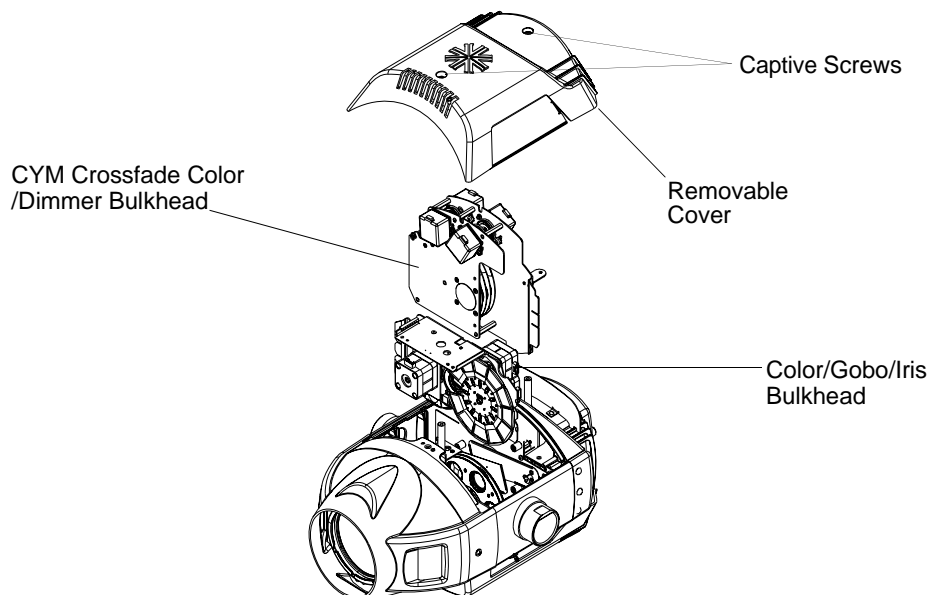

Figure 2-3: Color/Gobo/Iris Bulkhead Replacement
- Step 2. At top head cover, gradually loosen two 8-32x1/2" captive screws and remove cover. (Cover remains attached by tether.) **Figure 2-3.**
Step 2. At top head cover, loosen two captive screws and remove cover as shown in Figure 2-3 (it will remain attached by tether).